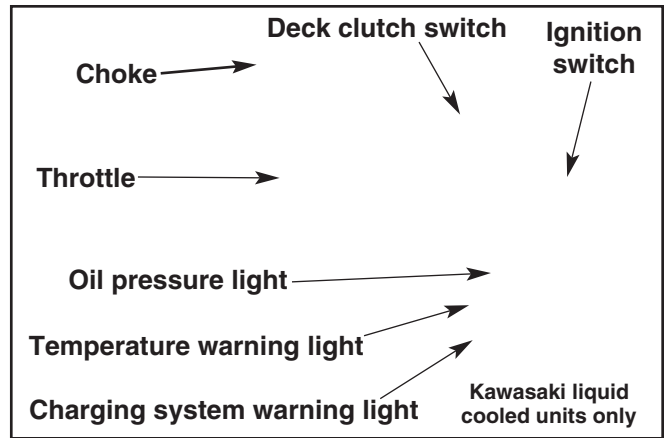

Figure 3-2c
10. **Temperature warning light and alarm (Fig. 3-2c)** — this light will come on when the engine coolant temperature reaches an unsafe level during operation. If light comes on, shut down the machine as soon as possible. Never risk continued operation when light remains on; high temperatures can severely damage the engine. Never risk continued operation when light remains on; high temperatures can severely damage the engine.